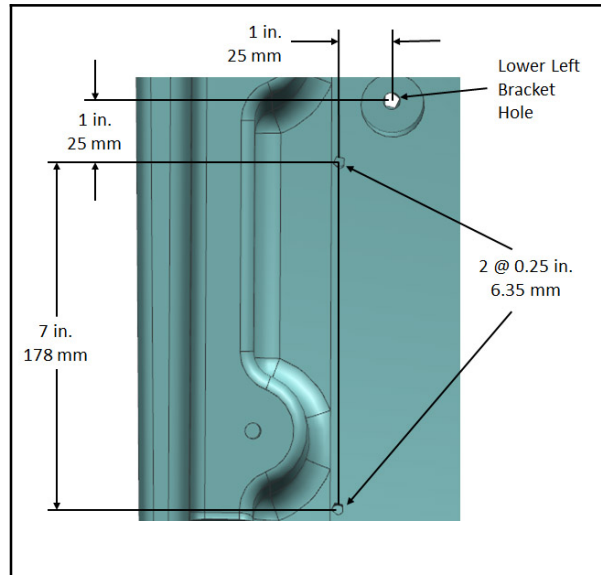
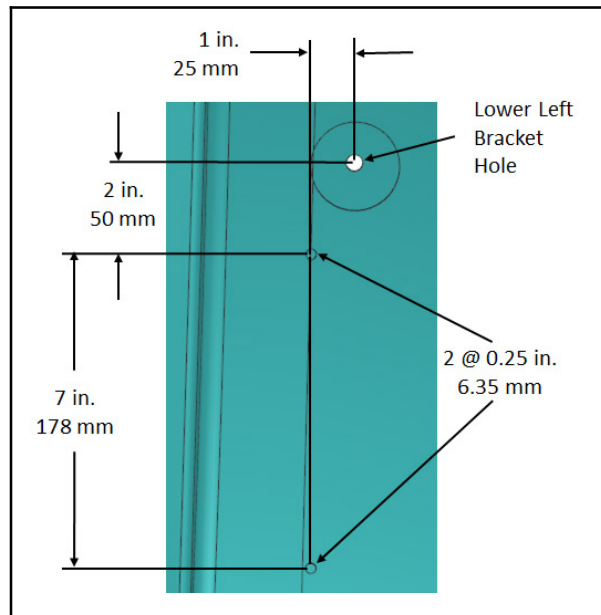

FIG. 6 - M20/T20
FIG. 7 - M30
6. From the inside the front shroud, drill two 1 in. (25 mm) holes into the front shroud. Drill through the inner wall only. **Do Not** drill into/through the front of the front shroud. (Fig. 6/Fig. 7)